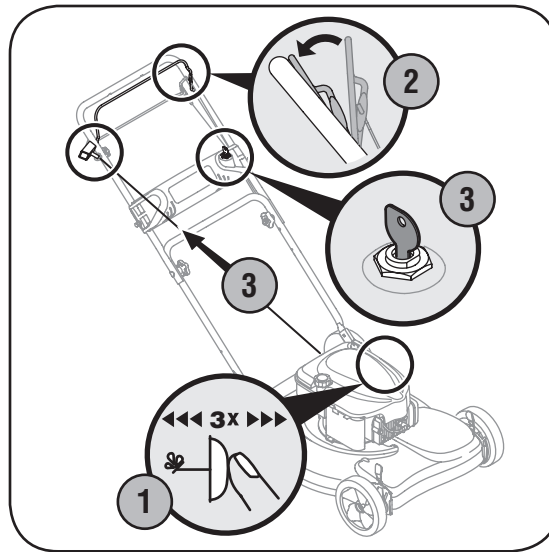

Figure 4-2
1. Push primer (if equipped) three times. Wait about two seconds between each push. See Figure 4-2. In temperature around 55° F or below, prime five times. Do not prime to restart a warm engine.
2. Standing behind the mower, squeeze the blade control against upper handle. See Figure 4-2.
3. **Recoil Start:** Grasp recoil starter handle and pull rope out with a rapid, continuous, full arm stroke. See Figure 4-2. Keeping a firm grip on the starter handle, let the rope rewind slowly. Repeat until engine cranks. Let the rope rewind each time slowly.